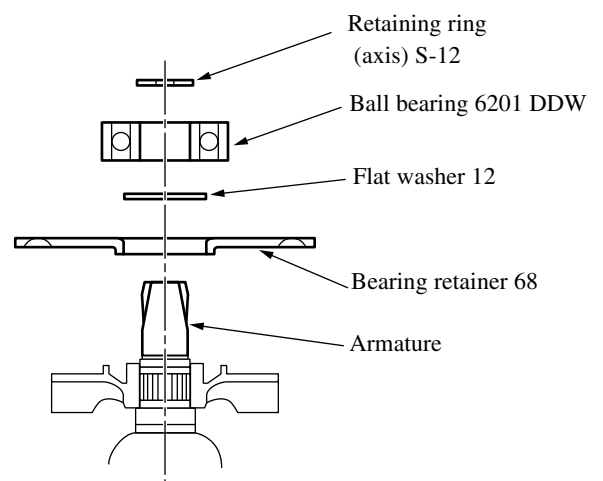

Fig. 4
- 1) After installing Bearing retainer 68 and Flat washer 12, attach Ball bearing 6201 DDW. Then install Retaining ring (axis) S-12. (See Fig.4)